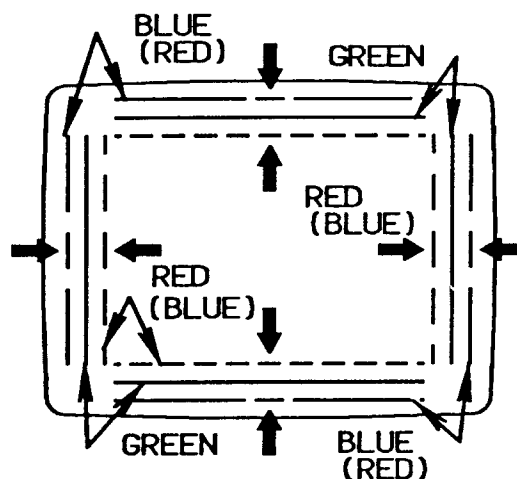

FIGURE 13. DYNAMIC CONVERGENCE B
- d) Tilt the deflection yoke right and left. Insert tilt adjustment wedge 3 between the deflection yoke and the CRT until the misconvergence illustrated in FIG.13 has been corrected.